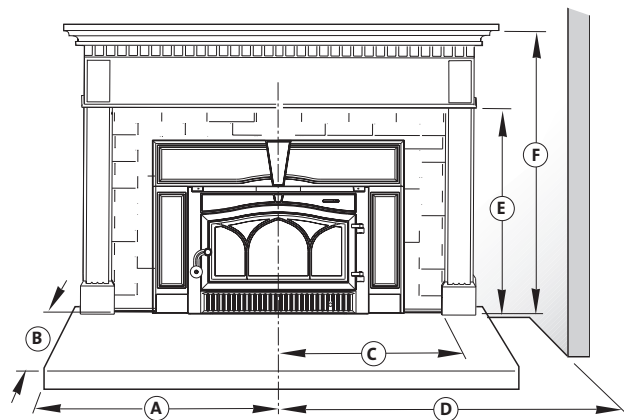

Figure 6. Minimum clearance to combustible materials.
U.S. & Canada: Sides - Protection must extend a minimum 18 1/2 in. to both sides of the centerline of the insert. See fig 6, A.